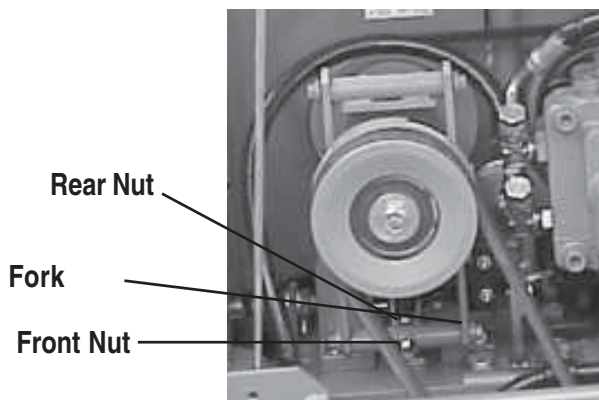

Figure 32. Vibration Clutch Adjustment
2. Loosen the front and rear nuts at the end of vibration clutch cable (Figure 32).